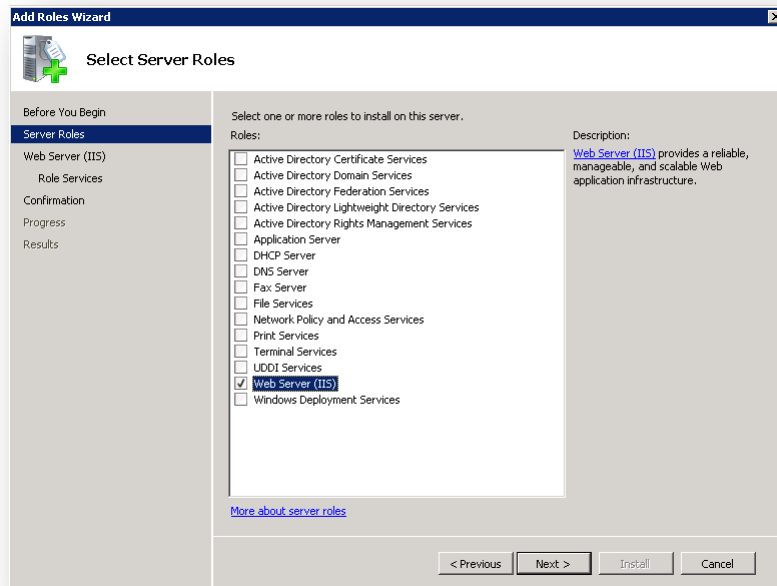

Figure 30 – Add Roles Wizard (Select Server Roles)
3. See Figure 30 for a screen shot of the Programs and Features window.